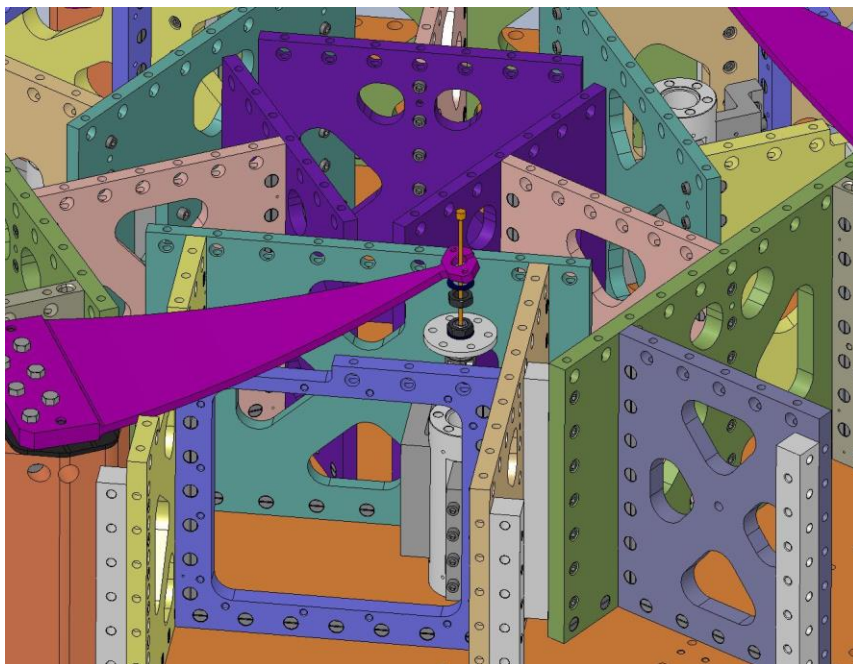

Figure 4.90. Pass the Flexure through the slot at the end of the Spring. Hold it in place during the next few steps.
- Pass a **Flexure Assembly** through the slot at the end of one of the **Springs**, as shown in Figure 4.90.